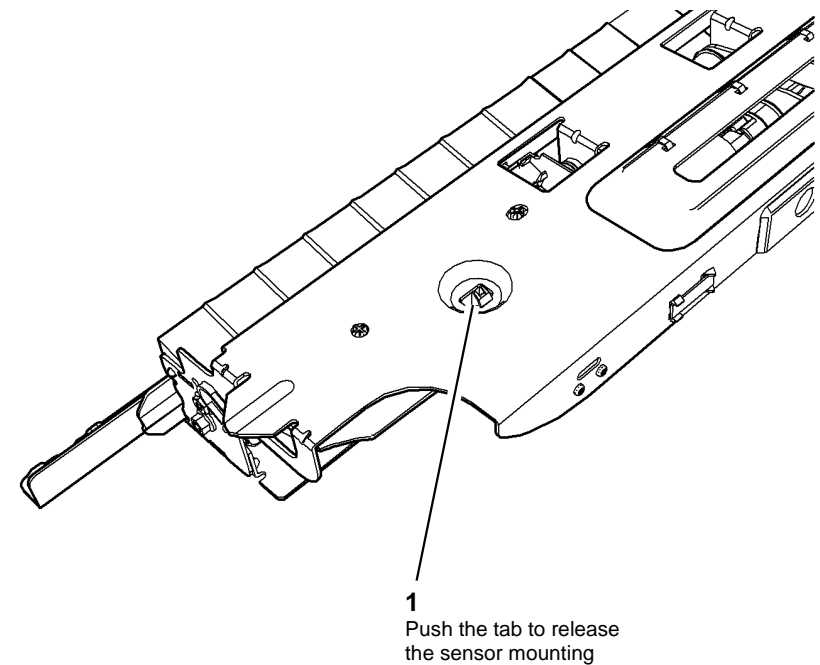

Figure 1 Sensor mounting release
2. Release the sensor mounting, Figure 1.